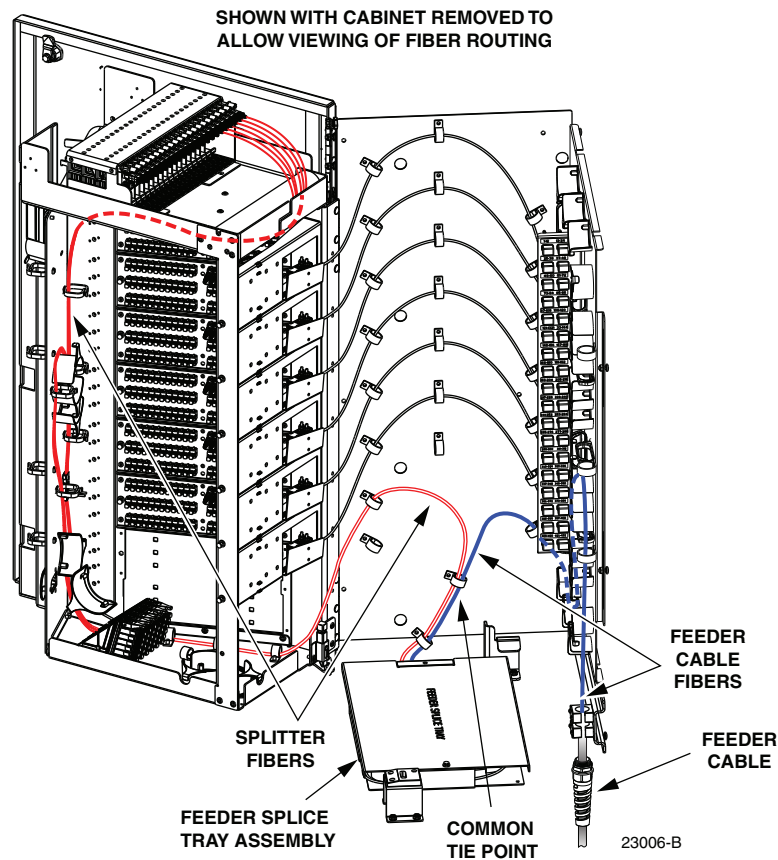

Figure 42. Feeder Splice Tray and Feeder/Splitter Fiber Routing
1. Locate the feeder splice tray which is mounted at the bottom of the cabinet, as shown in Figure 42, and locate the splitter fibers which are routed to the feeder splice tray.